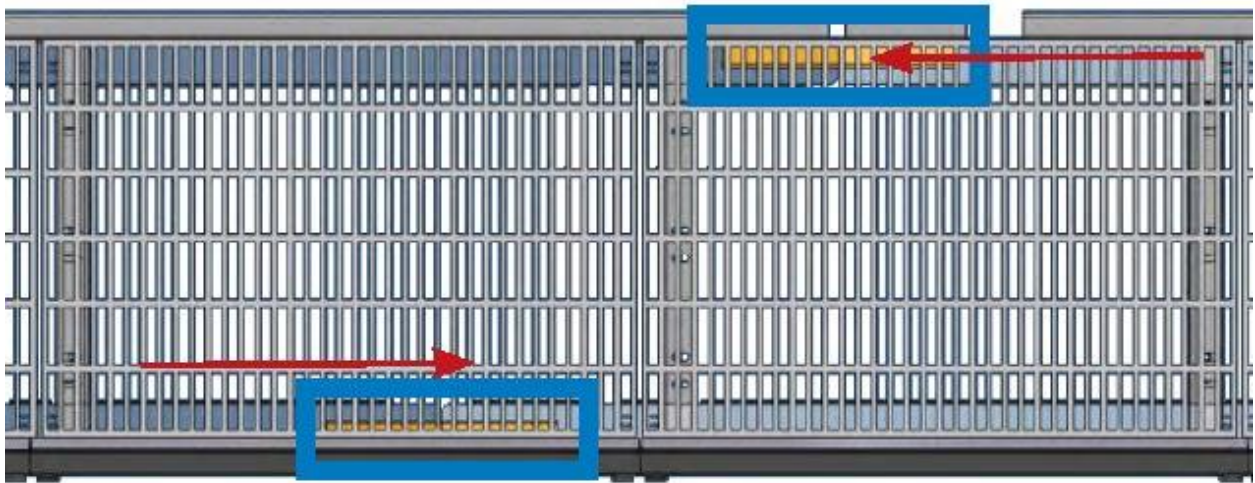
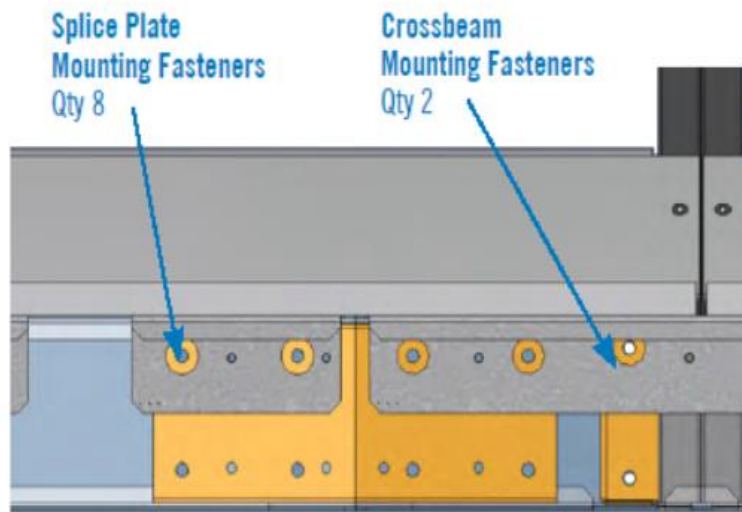
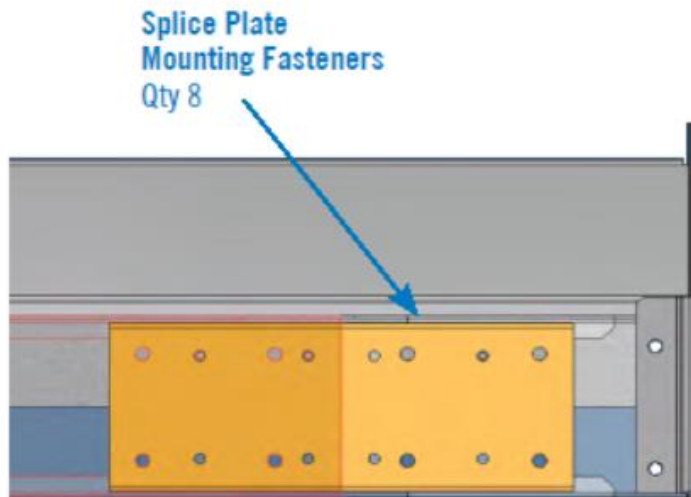

Figure 18. Move splice plates into positions shown
Figure 19. Inside beam splice plate and crossbeam mounting fastener locations
Figure 20. Outside beam splice plate mounting fastener locations
5. Slide the two splice plates into mounting positions. Secure with provided hardware. See **Figure 18**, **Figure 19** and **Figure 20**.